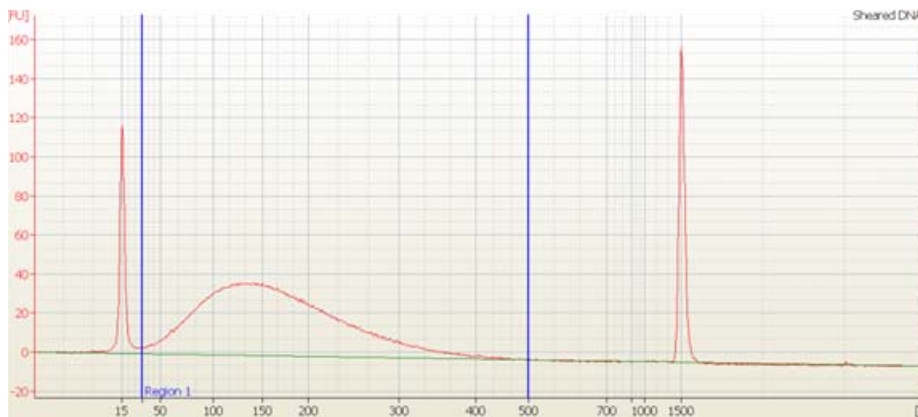

Figure 2 Analysis of sheared DNA using a DNA 1000 Bioanalyzer assay.
- 4 Check that the electropherogram shows an average DNA fragment size of 150 to 200 bp. A sample electropherogram is shown in Figure 2.